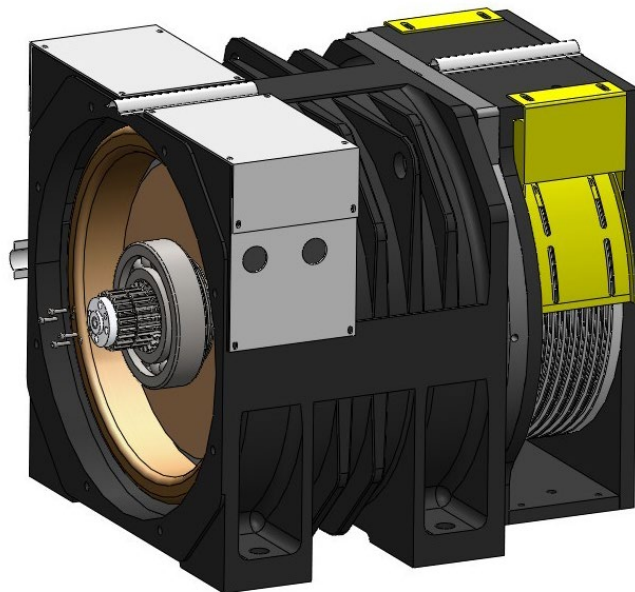

Figure 72 Remove Encoder Shaft
6. Make a mark for encoder shaft and spline, loosen 4 screws M5x16 with hex wrench (4mm), and take off shaft of encoder shaft. See Figure 72.